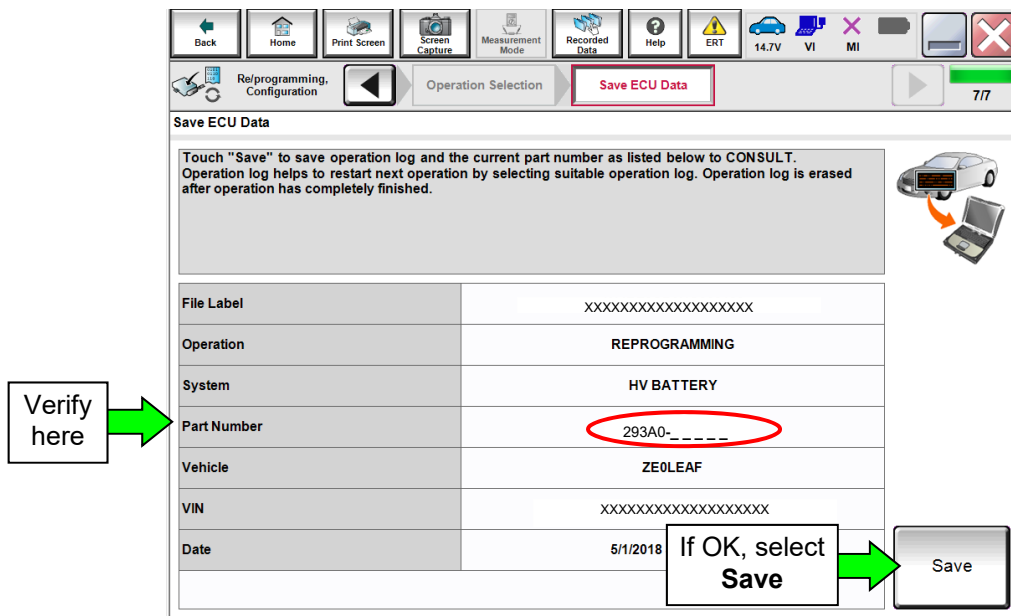

Figure 8
15. Write down the **Part Number** on the vehicle's repair order from Figure 8 and confirm if it matches one of the part numbers in Table "A" below.